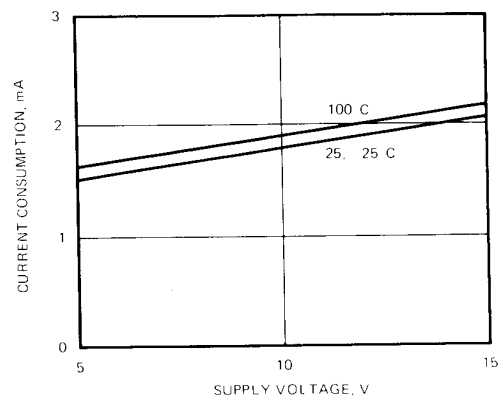
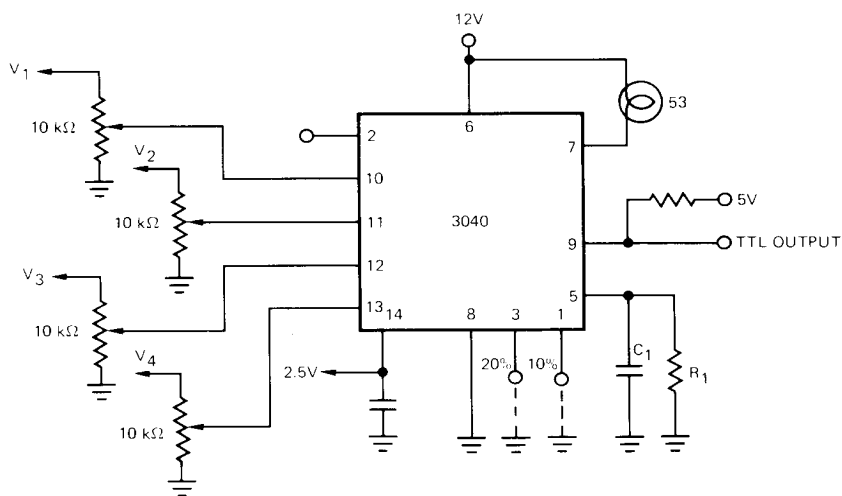

Figure 2: Current Consumption vs. Supply Voltage (Standby Mode).
Figure 10: Basic Connection of Quad Monitor.
**See Figure 10.
Typical performance of the 3040 quad-monitor is shown in Figures 2 through 9. Notice that the frequency and duty cycle of the oscillator will be chosen with an external resistor and capacitor over a wide range. The basic external connection of the quad-monitor is shown in Figure 10. In this configuration, all four inputs are used to monitor positive voltages.